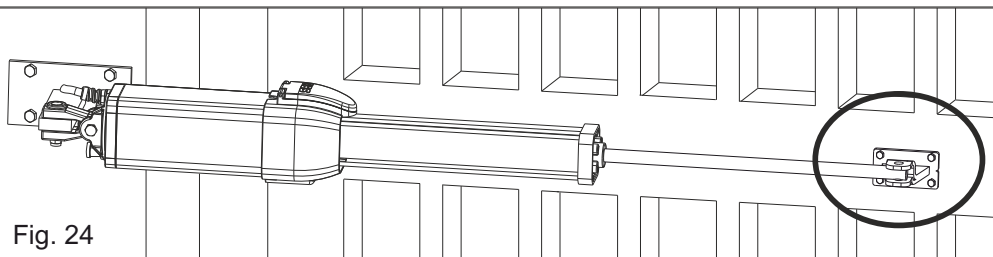
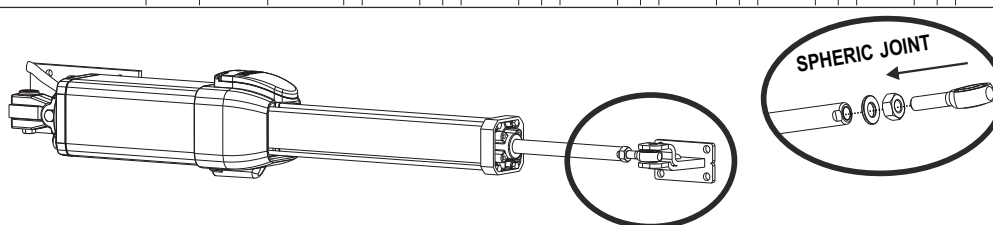

Fig. 24
Fig. 26
- Place the operator shaft in the housing of the front bracket - Fig. 24 or Fig. 26